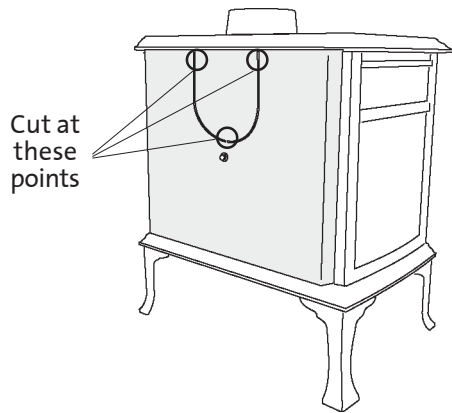

Figure 1. Rear flue collar cut-out.
2. Using tin snips, cut out the panel from the Rear Heat Shield for the Flue Collar to pass through. See **fig. 1**.